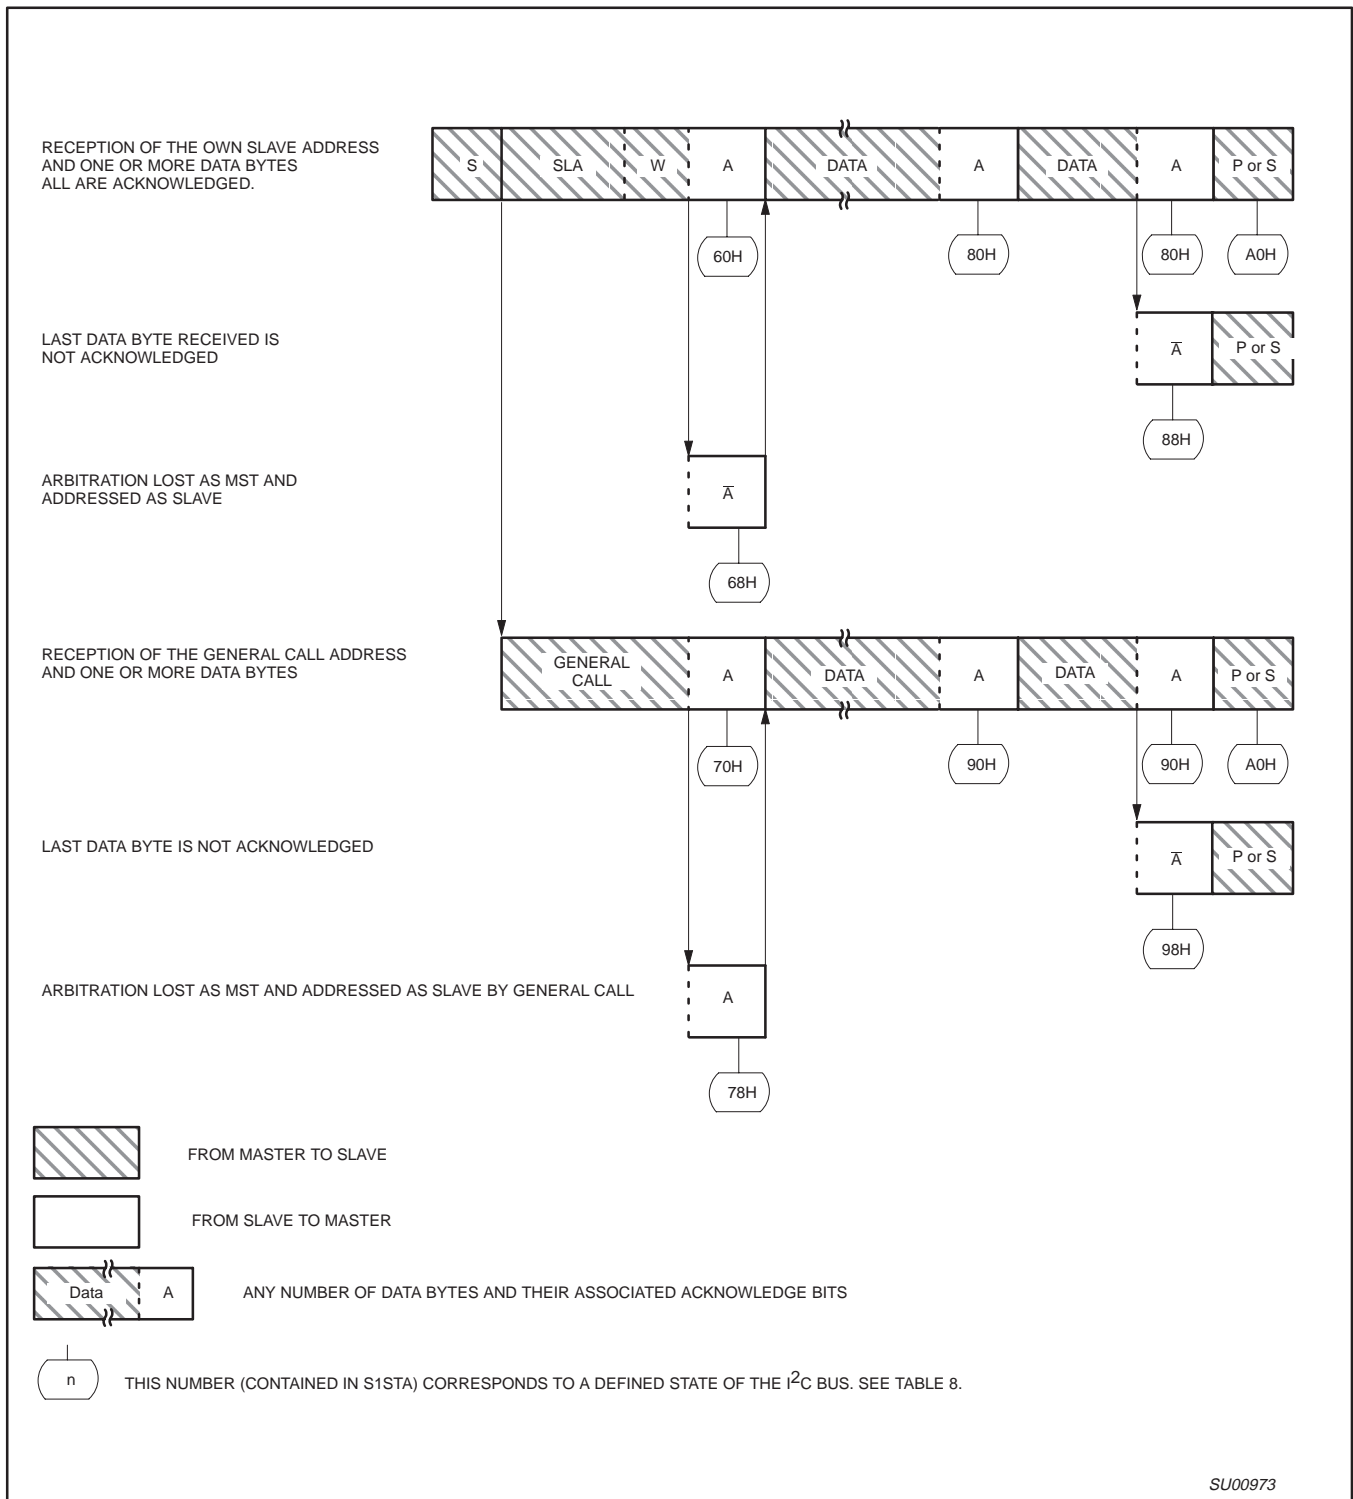

Figure 42. Format and States in the Slave Receiver Mode
**Slave Receiver Mode:** In the slave receiver mode, a number of data bytes are received from a master transmitter (see Figure 42). To initiate the slave receiver mode, S1ADR and S1CON must be loaded as follows: